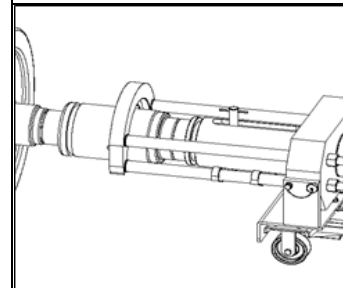

Figure 28 – Retract the Piston Rod
- 5.3.11 Begin to retract the Piston Rod and, if everything is properly engaged and aligned (Figure 28), **stand to the side of the puller and back as far as the remote-control cord will allow** and continue to retract the Piston Rod to press the bearing assembly onto the axle.